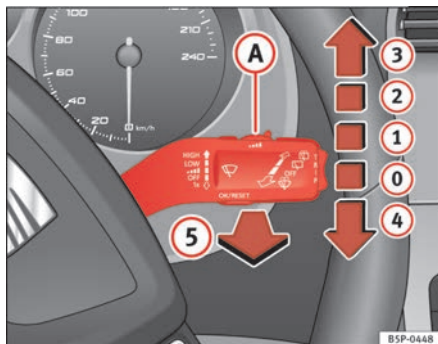

Fig. 84 Windscreen wiper and windscreen wash lever
The windscreen wiper lever ⇒ fig. 84 has the following positions:
- The next speed down will automatically be selected if wiper speed ② ⇒ page 123, fig. 84 or ③ is selected when the vehicle stops. The set speed will be resumed when the vehicle starts again